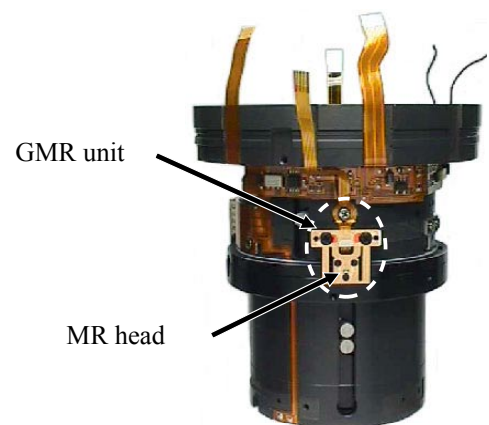

Fig.2
- ④ In case the amplitude is small, disassemble up to the stage of the GMR sensor FPC unit. Then if the deformation is detected in the MR head, correct the deform of the MR head. On the other hand, if such correction is impossible or no deformation is detected, replace the GMR sensor FPC unit. (Fig.2)